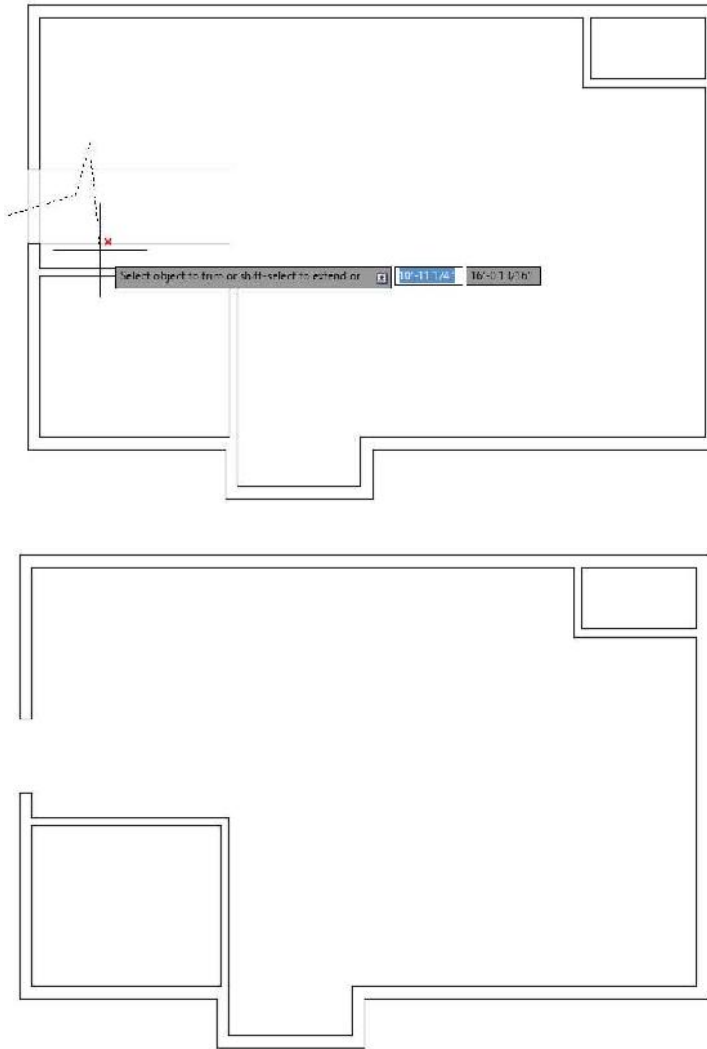

FIGURE 4.31: Using the Trim Fence option to trim away the unneeded lines
7. Draw a fence line as shown at the top of Figure 4.31. The result should look like the bottom of Figure 4.31.